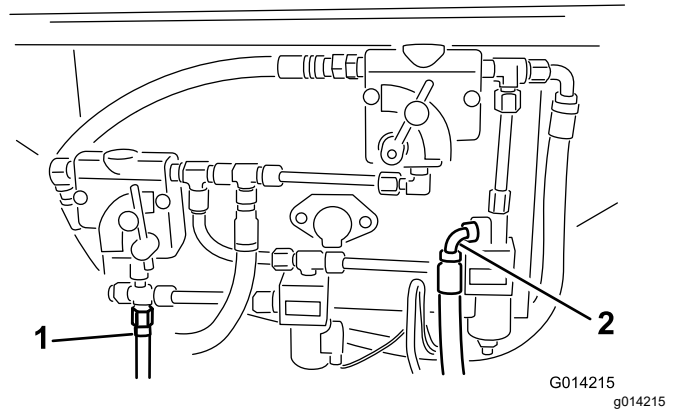
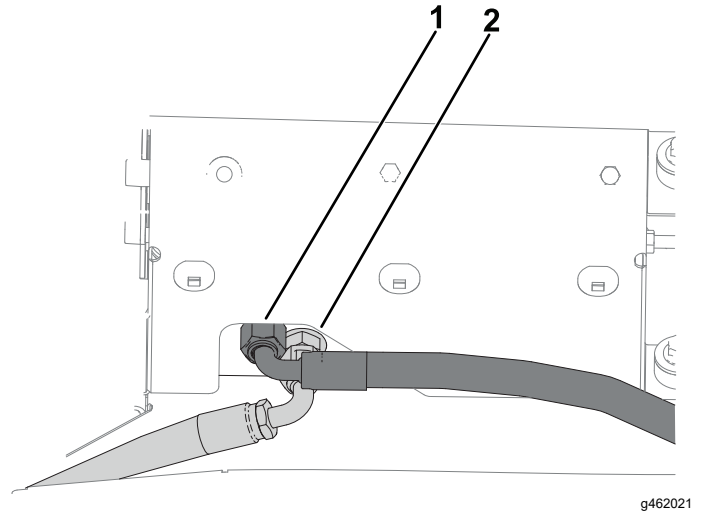
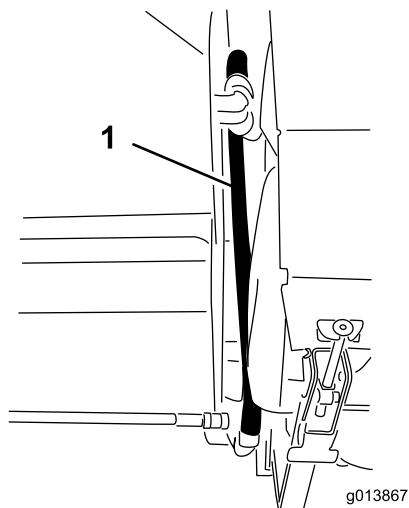
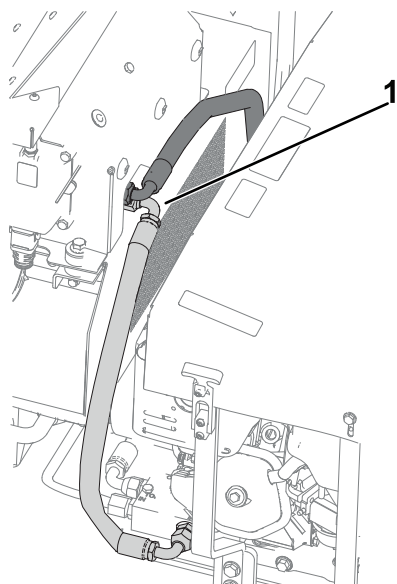

Figure 14
Figure 15
Figure 16
Figure 17
11. Identify the pressure and return connections on the machine base model. Refer to Figure 14 for the SH versions and Figure 15 for the EH versions.
12. If pressure and return hoses were previously installed at the locations shown in Figure 14 and Figure 15, remove them.
13. Connect the hydraulic hoses to the hydraulic control panel. Refer to Figure 14 and Figure 16 on the SH versions and Figure 15 and Figure 17 on the EH versions.